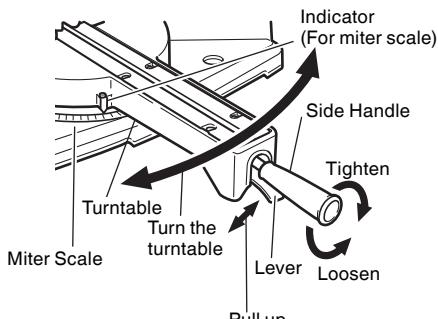
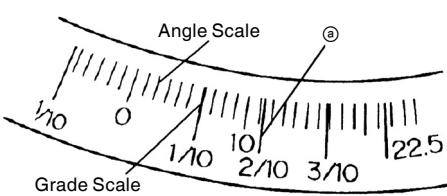

Fig. 30
Fig. 31
- (1) Loosen the side handle and pull up the lever for angle stoppers. Then, adjust the turntable until the indicator aligns with desired setting on the miter scale (Fig. 30).
- (2) Re-tighten the side handle to secure the turntable in the desired position.
- (3) The miter scale (Fig. 31) indicates both the cutting angle on the angle scale and the gradient on the grade scale.
- (4) The gradient, which is the ratio of the height to the base of the triangular section to be removed, may be used for setting the miter scale instead of the cutting angle, if desired (see Fig. 31).
- (5) Therefore, to cut a workpiece at a grade of 2/10, set the indicator to position ④ as indicated in Fig. 31.